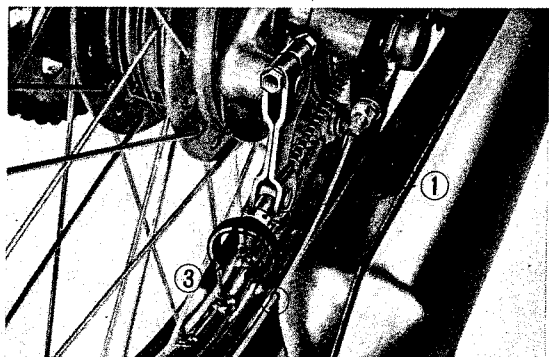

Fig. 22 ① Adjuster nut ② Decrease ③ Increase
2) Minor or fine adjustment can be made with adjuster nut on the brake lever. (Fig. 22)